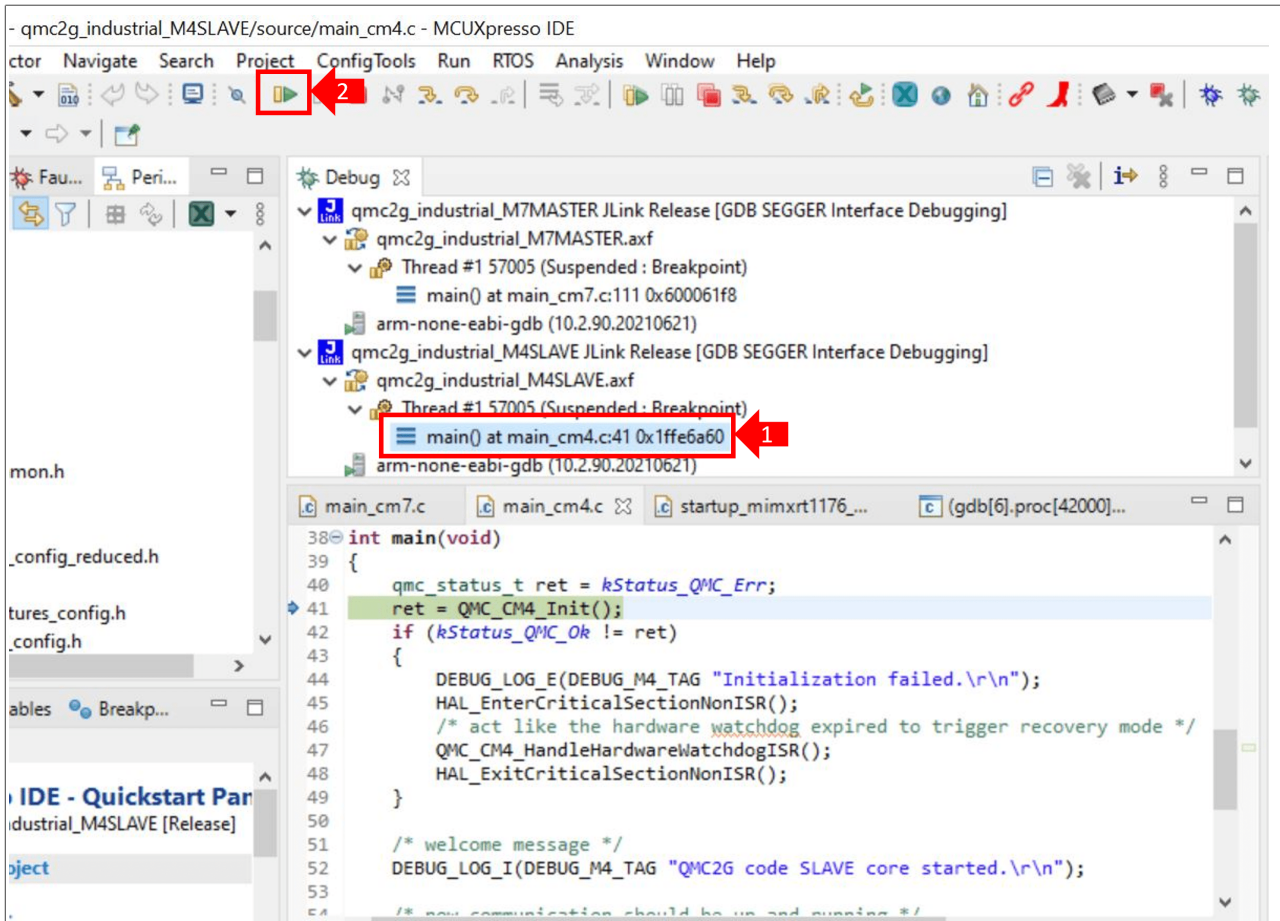

Figure 53. Resume debugging session in `isi_qmc_dgc_industrial_app_slave_cm4`
8. Once the software is loaded (1), double-click the *main()* function of the *isi\_qmc\_dgc\_industrial\_app\_slave\_cm4*, (2) then click the *resume* button as shown in Figure 53: